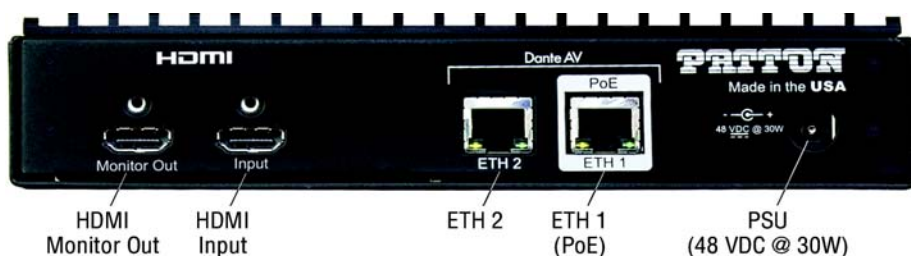
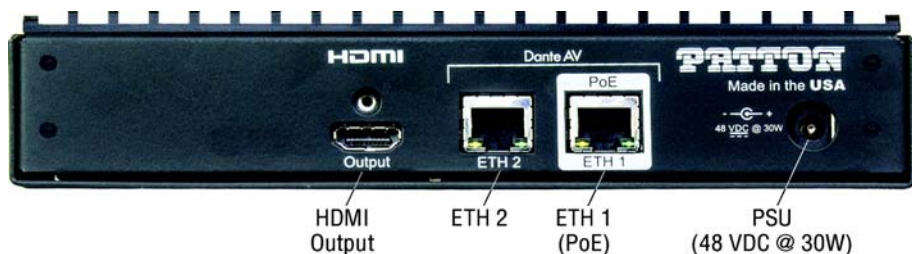

Figure 10. Transmitter rear panel ports
Figure 11. Receiver rear panel ports
2. Install cables on the rear panel of the FPX6000T Transmitter (see **figure 10** on page 11) as follows:
3. Install cables on the rear panel of the FPX6000R Receiver (see **figure 11** on page 12) as follows:
1. If you are powering the device with PoE, go to step 2. Otherwise, connect the power supply cable to the *48 VDC at 30 W* port (see **figure 10** on page 11 for the Transmitter or **figure 11** on page 12 for the Receiver), then go to step 3.
2. Connect the Dante Network Ethernet/PoE cable to the *ETH1* port (see **figure 10** on page 11 for the Transmitter or **figure 11** on page 12 for the Receiver).